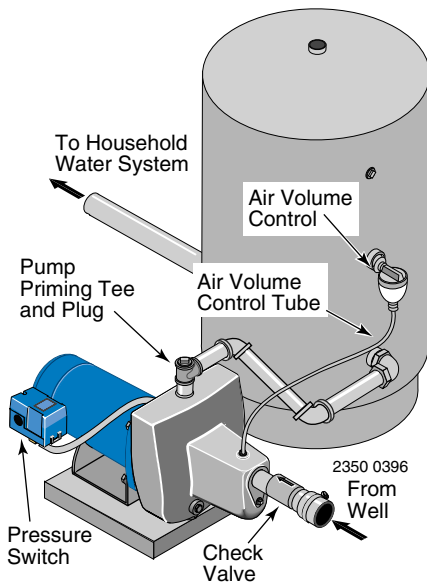

Figure 5: Standard Tank Connections
STANDARD TANK CONNECTION (FIGURE 5)
- Step 1. Install one tee in the pump discharge port (see Figure 5).
- Step 3. Remove the 1/8" NPT pipe plug from the pump Air Volume Control (AVC) port (see Figure 5). Run tubing from the pump's AVC port (see Figure 5) to the port on the AVC mounted on the tank. See instructions provided with tank and AVC for details. AVC port location will vary, depending on your pump model (see exploded view, Page 9).